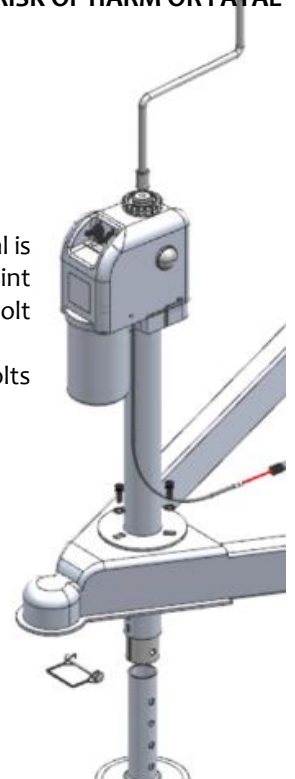

Fig 1
3. Remove the tape that masks one of the three mounting holes on the jack; this exposed bare metal is to ensure the best ground possible for the jacks' electrical system. Touch up bare metal with paint or grease it after installed to prevent rust. Insert the electric jack into the jack hole, aligning the bolt holes so the motor housing is facing forward as shown in Fig 1.
4. Secure the jack with the three (3) bolts provided. If mounting holes on coupler are too large for bolts to thread into, use grade 5, $\frac{3}{8}$ "-16 UNC bolts and washers. Place the star washers between the flat washers and mounting plate as shown in Fig 1. The star washers are intended to penetrate through the paint on the mounting plate to ensure direct metal to metal contact. Bolts should be tightened to 15-20 ft-lb.